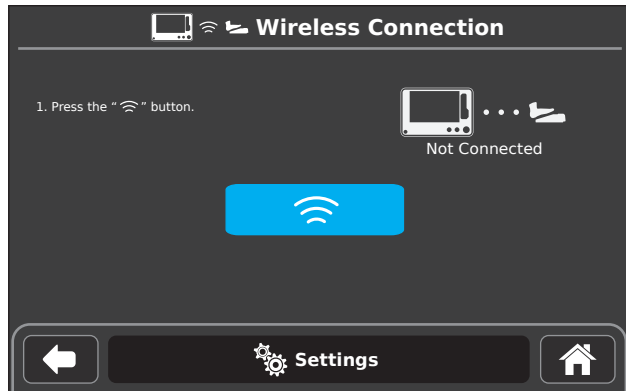

Figure 47 – Wireless Connection Screen
- From the WIRELESS CONNECTION screen, touch the PAIR WIRELESS button (Figure 47).